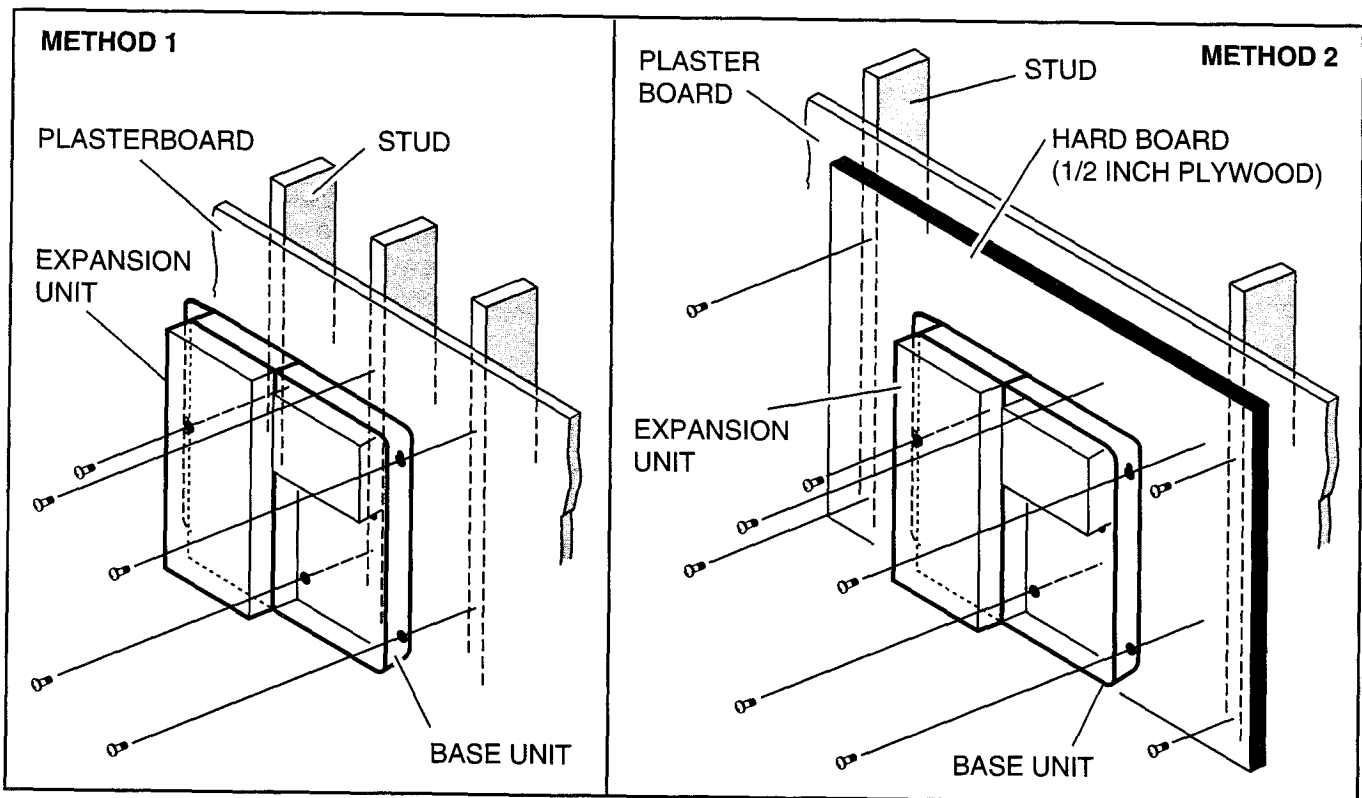

FIGURE 5-2
2.01 The Base Key Service Unit and the optional Expansion Key Service Unit are both designed to be mounted on a wall or other vertical surface. It is recommended to use Method 1 or 2 in Figure 5-2 (see Note).
- 2) Place the Base Key Service Unit on the desired location on the mounting surface and mark the location of the four screw holes (there is one on each corner). See Figure 5-2.